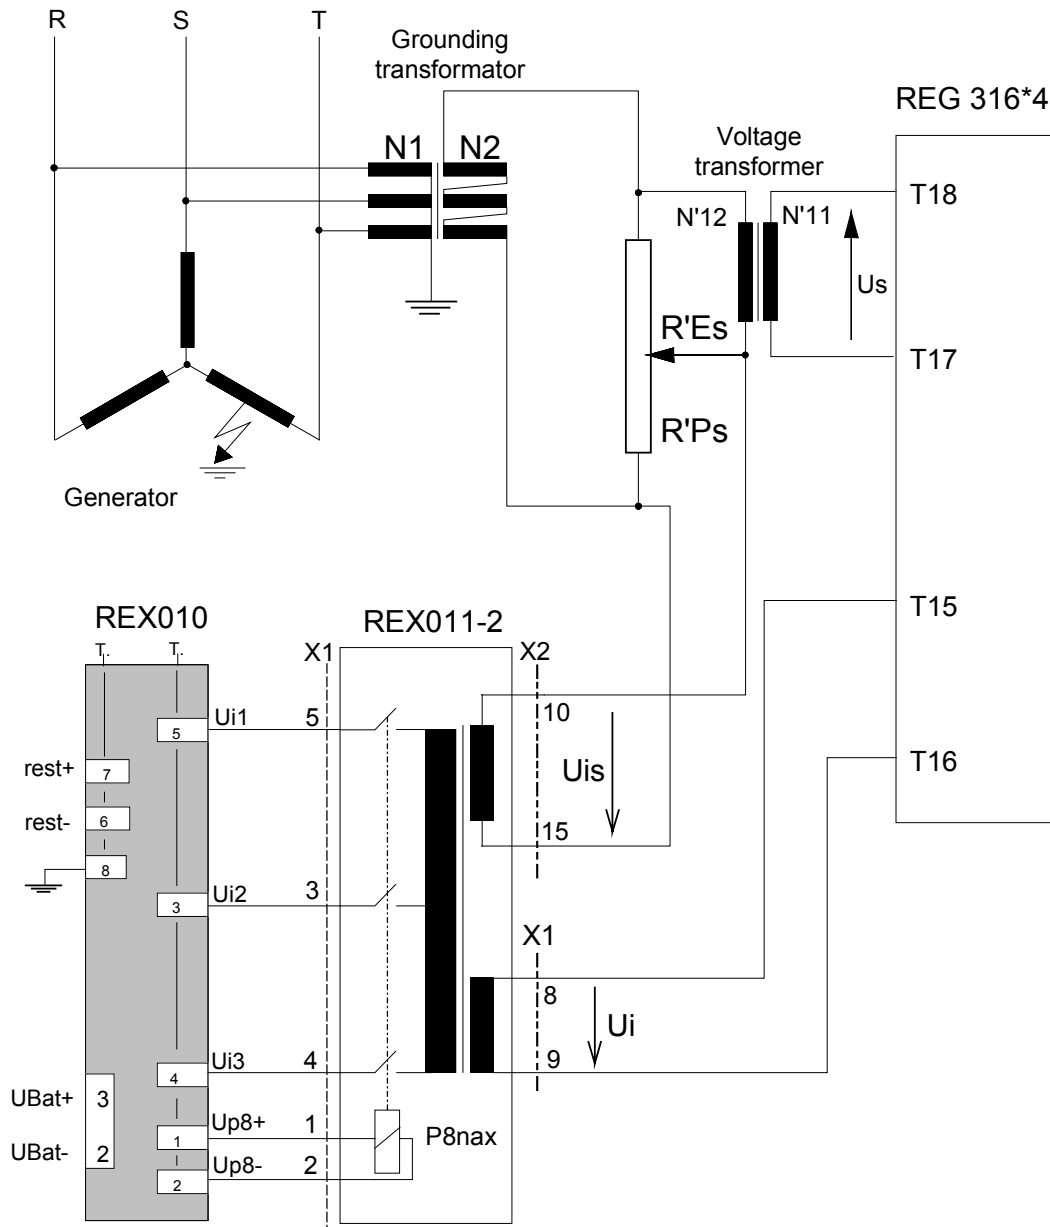

Fig. 2.6
- Fig. 2.6 Wiring diagram for secondary injection of the stator at the terminals using REX 011-2